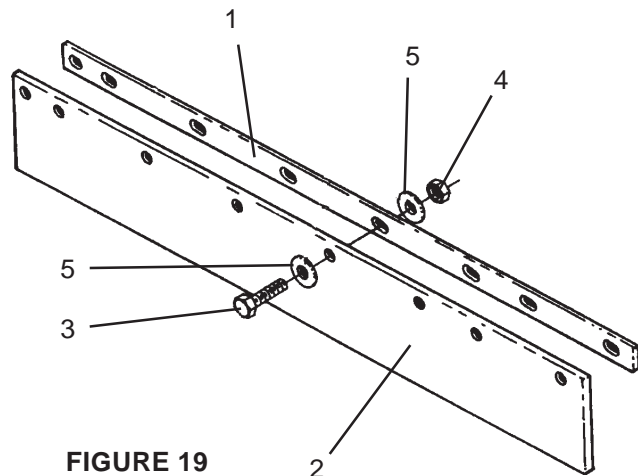

FIGURE 19
Attach right and left rear wing Deflector (2) and Strap (1) to deck using 3/8" x 1-1/2" Bolts (3), Flatwashers (5), and Locknuts (4) as shown in **Figure 19**.